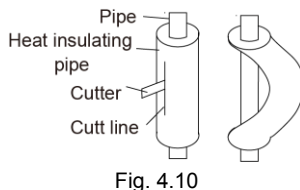

Fig. 4.10
- (2). Do not bend the pipes in an angle more than 90°.
- (3). When pipes are repeatedly bent or stretched, the material will harden, making it difficult to bend or stretch them any more. Do not bend or stretch the pipes more than three times.
- (4). When bending the pipe, do not bend it as is. The pipe will be collapsed. In this case, cut the heat insulating pipe with a sharp cutter as shown in Fig. 4.10, and bend it after exposing the pipe. After bending the pipe as you want, be sure to put the heat insulating pipe back on the pipe, and secure it with tape.